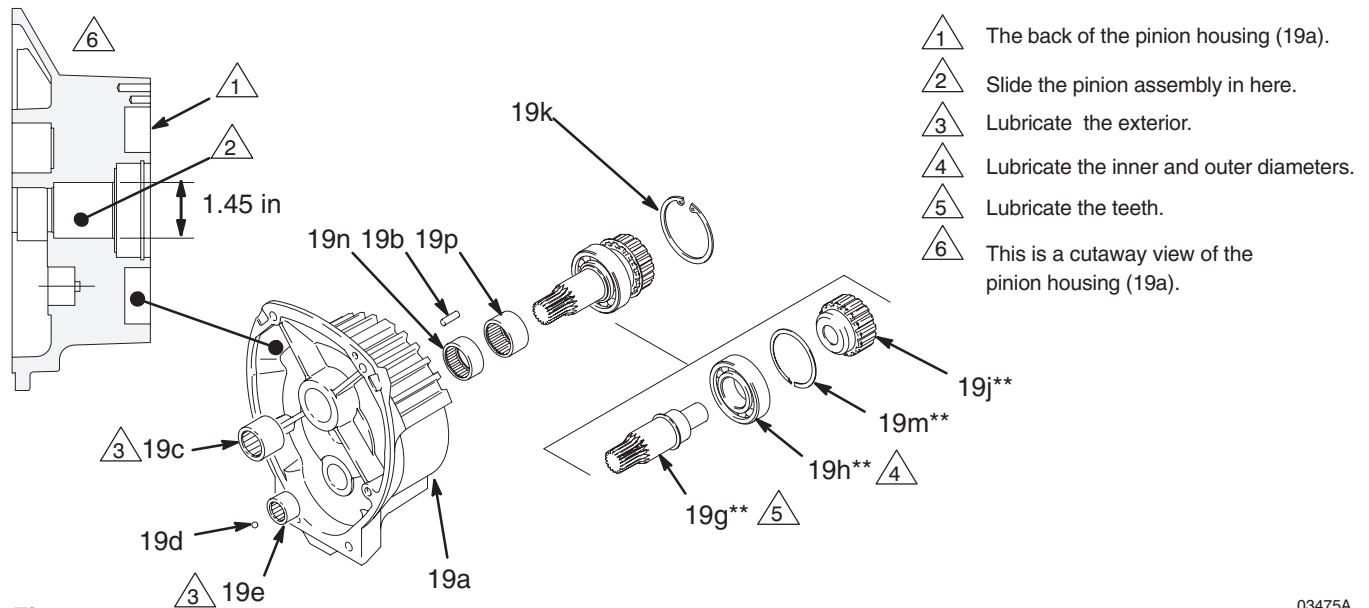

Fig. 10
2. Remove the two bottom screws (10) and lockwashers (11) first, then remove the two side screws (10) and lockwashers (11), and last remove the top screw (10) and lockwasher (11).
3. Pull the pinion housing (19) away from the clutch housing. The armature (4a) will come with it.
4. Pull the armature (4a) off the hub (19j) of the pinion housing. Also see Fig. 10.
NOTE: Refer to Fig. 10 except where noted.
5. Apply lubricant to the parts as shown in Fig. 10.